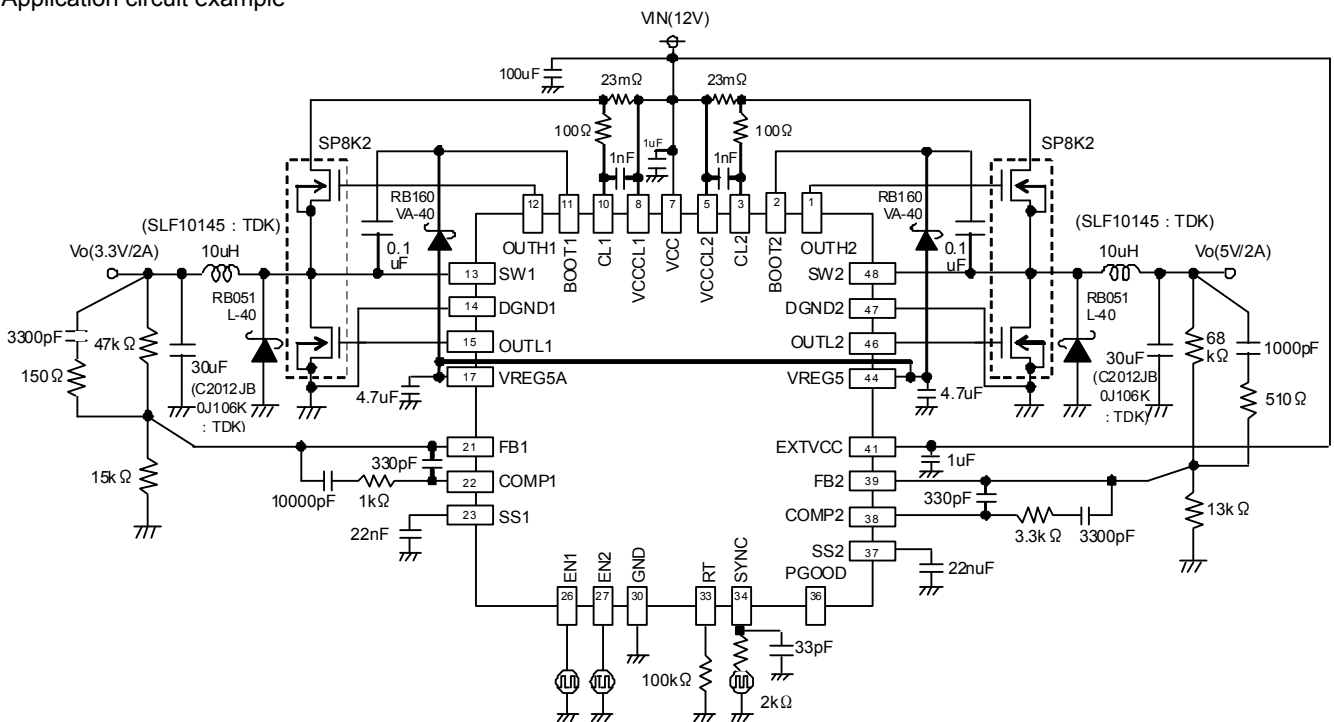

Fig. 13 (Step-Down)
The pulse width needs to be more than 200nsec for both on time and off time. Supply a pulse wave faster than the frequency determined with the setting resistor (RT), but slower than 600 kHz ( $F_{osc} \times 1.5$  or less). Moreover, it is recommended to insert the low pass filter to the SYNC terminal. (Refer to fig.13)